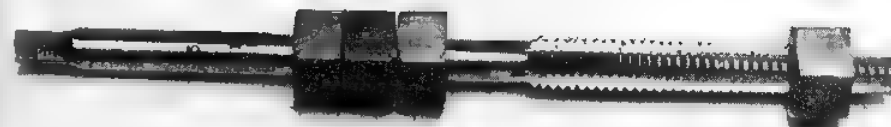

Fig. 55 A "Nut Tap" showing the threaded nuts feeding along the shank
**The Nut Tap**, Fig. 55, is intended for short production runs making nuts, and as can be seen in the photograph the shank is reduced to less than the core diameter of the thread, so that when tapped the nuts can run over this part. That shown has a square on the shank, but this has been ground on to convert it to a hand tap. They are strictly *machine taps*, having a plain shank with a single flat for holding in special collets. The lead is longer than a seconds hand tap and usually the flute is of special form to give free cutting at high speed. Many taps sold as "surplus" are of this type and very useful they are, too. However, they may need resharpening if they have come from a production workshop. You MAY find that nuts made with such a tap can be fitted only with difficulty onto a bolt; you have picked up a tap to Class 1 tolerances, too close for normal work!